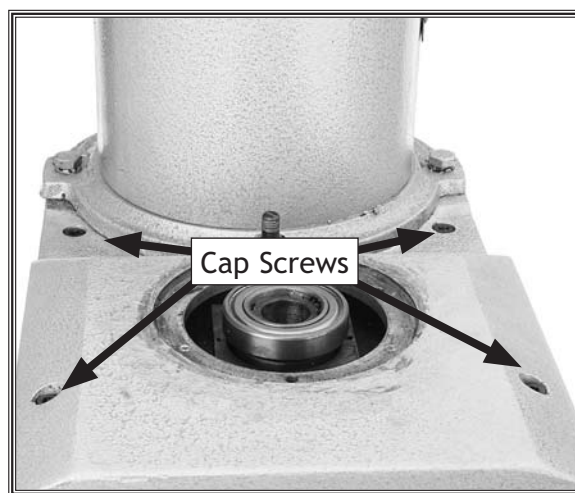

Figure 70. Upper transmission case.
12. Remove the four cap screws shown in **Figure 70** and remove the cap screw from the end of the underside of the transmission case.